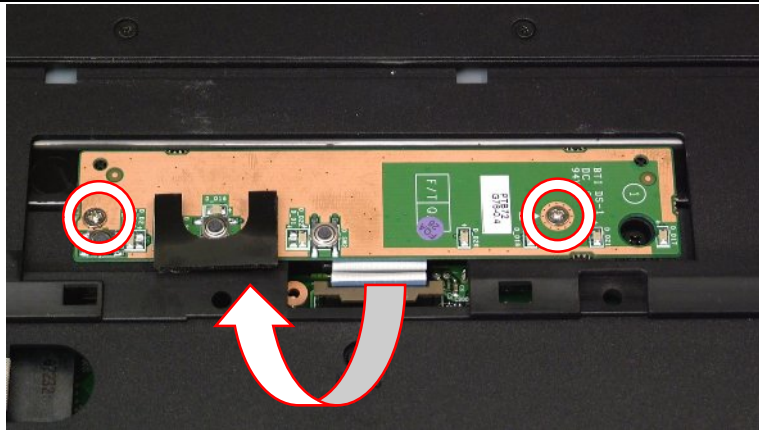

Fig. 17 Location button board screws.
2. Carefully disconnect the flat cable from the main board (see Fig. 17).
4. Disconnect the button board flat cable (see Fig. 17).